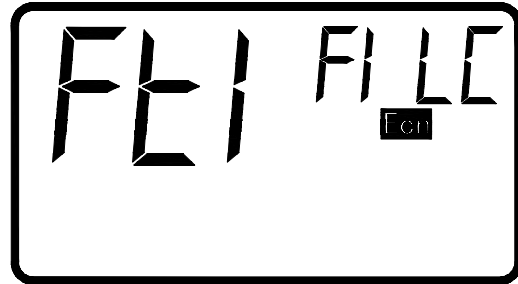

Fig5: continued working timer is Continuous
- 4、 Second press of “” button, The system will go to start working clock setting, (Fig 5) 。 Press “” before the start time stopped flashing will change the start working clock-hour, minute is 00.